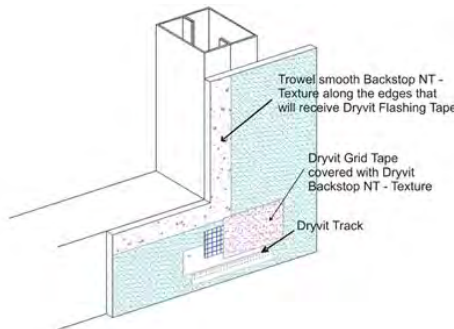

Figure 17
- 4) While the Backstop NT - Texture is still wet, using a trowel or spatula, smooth out the Backstop NT - Texture around all window and door perimeters and other areas that will later receive Dryvit Flashing Tape - Figure 17.
- 4) While Backstop NT - Texture is still wet, using a trowel or spatula, smooth out the Backstop NT - Texture around all window and door perimeters and other areas that will later receive Dryvit Flashing Tape – Figure 17.